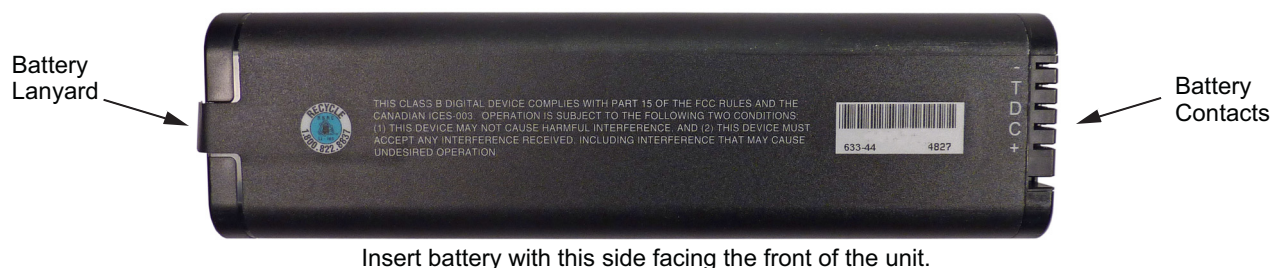

Figure 5-4. Battery Contacts and Orientation
5. Replacement is the opposite of removal. Note the orientation of the battery contacts, and be sure to insert the battery with the contacts facing the front of the unit, refer to Figure 5-3 and Figure 5-4.